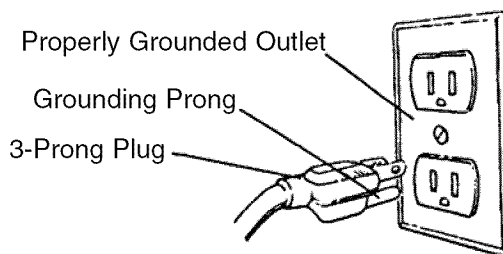

Figure 3 - 3-Prong Receptacle
Band Saw is prewired for 115 volt, 60 HZ power source. See figure 3 for wiring schematic.
This tool is equipped with an approved 3-conductor cord rated at 150V and a three prong grounding type plug (see Figure 3) for your protection against shock hazards.
- Grounding plug should be plugged directly into a properly installed and grounded 3-prong grounding-type receptacle, as shown (Figure 3).